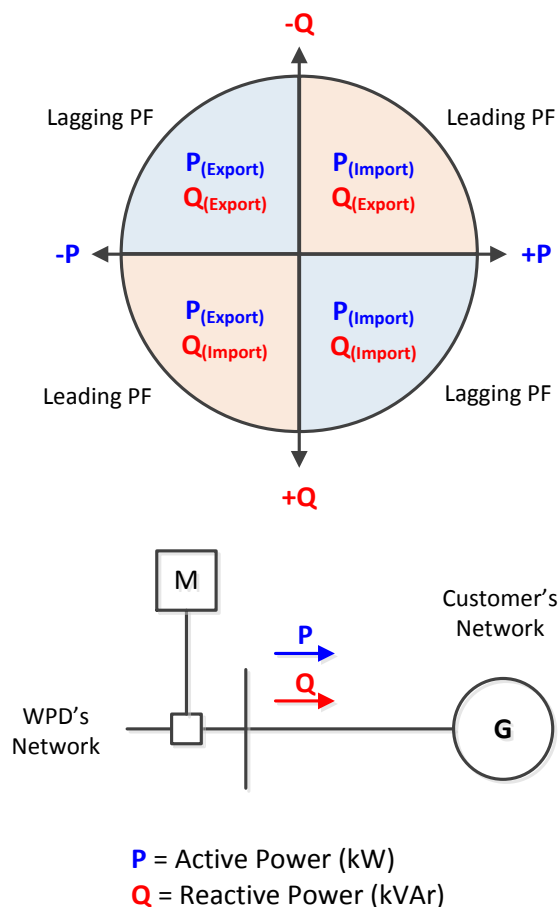

Figure 5 Power Flow Conventions
3.3.1 CCPs use the same power flow conventions that are used for Western Power Distribution's transducers. This means that when Active Power is imported (i.e. flows from WPD's network into the Customer's installation the value is deemed to be positive (+ve) and when the Active Power is exported it is deemed to be negative (-ve). The same is true for Reactive Power. This convention is shown in Figure 5.